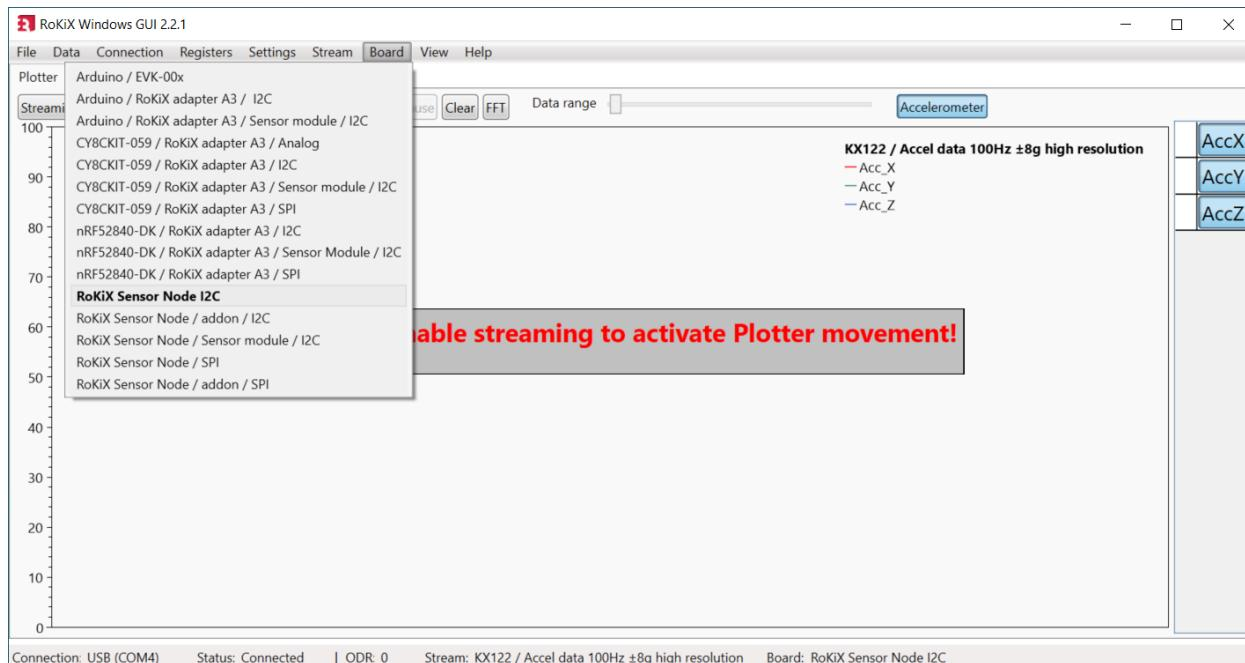

Figure 17: RoKiX Windows GUI board menu.
- Check that either “RoKiX Sensor Node / I2C” or “RoKiX Sensor Node / SPI” board configuration is selected like in Figure 17 below.